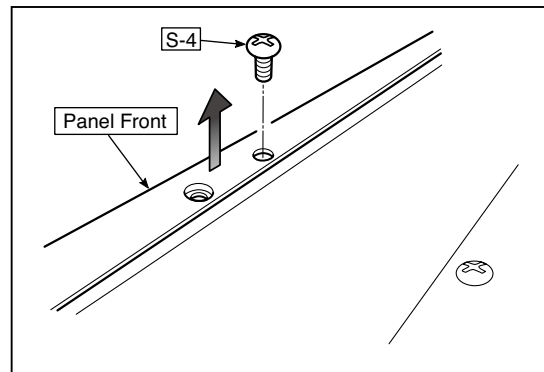

Fig.23
9) Remove the Panel Upper. (See Fig. 23)
1. Remove the "S-4" screws shown in the figure 23 and then remove the Panel Front.